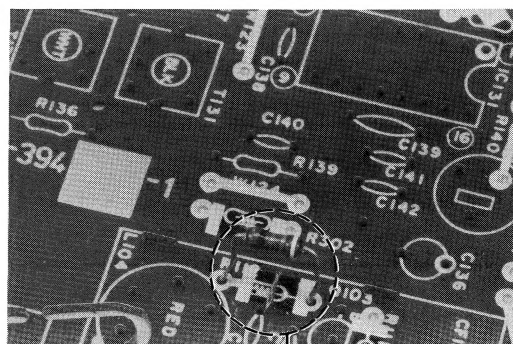

Fig. 14
- (2) Solder a new resistor in the pattern side as shown in Fig. 14.